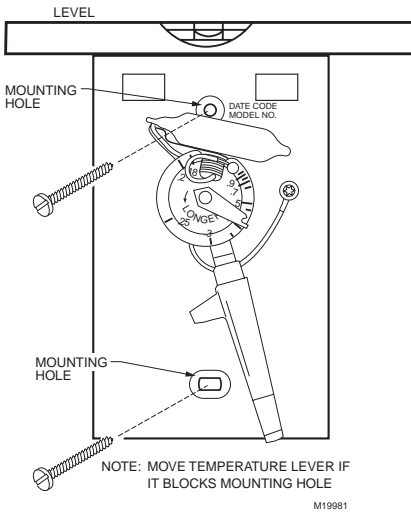

Fig. 6. Mount new thermostat to wall.
1. Position the thermostat on the wall. Place a level on top of the thermostat and use a pencil to mark the two mounting holes on the wall (see Fig. 6).
- Thermostat model number and date code (refer to Fig. 6 for the location of the model number and date code).